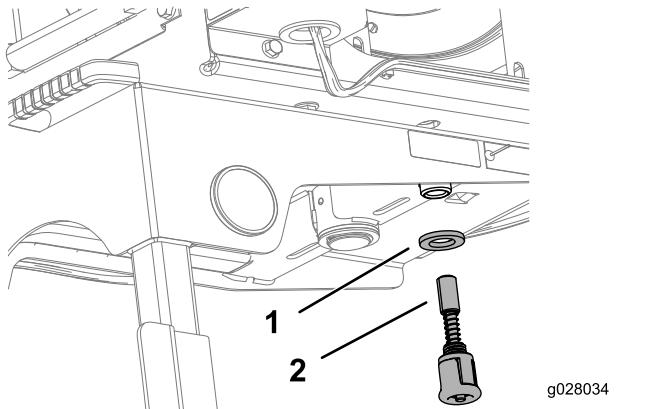

Figure 23
- 6. Install the washer and spring pin to the underside of the hose-reel frame (Figure 23).